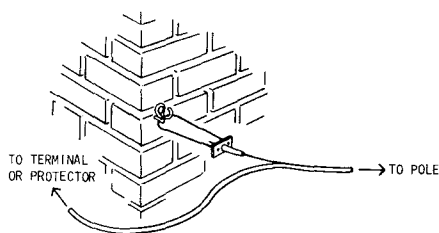

Fig. 9—Multiple Drop Wire Installed at First Building Attachment
- (1) Attach the multiple pair ASW to the building with the hardware described in Table A.
- (2) At the first attachment:
- (3) Crush the PVC jacket of the support wire between the handles of the diagonal pliers and remove the insulation.
(4) Place a black plastic cable tie around the jacketed pairs and support wire at the point of separation to prevent further splitting of the web.
(5) Install a No. 5056B wirewisp (Fig. 2) or a DE-2506 dead end (Fig. 3) on the bare support wire and over drop wire hook (Fig. 9).
(6) Toward the protector, slit the support wire for approximately 2 or 3 feet and remove that portion of support wire. Exercise caution not to damage the PVC jacket.